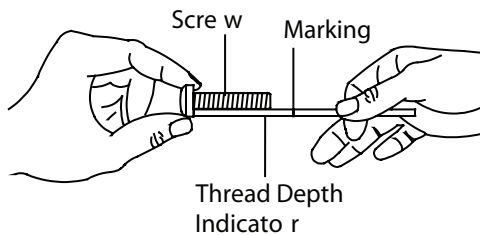

Figure 2
4. The screw length must not bypass the marking. Select another screw size (Figure 2 and 3), until you find one that comes closest to your mark without going past.